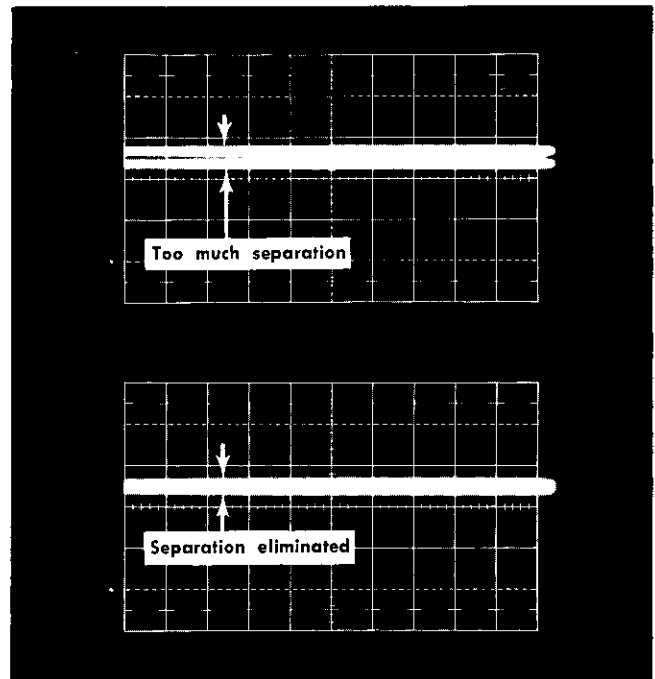

Fig. 5-5. Noise waveform, step 8. Sweep rate 5 μs/div; deflection factor 1 mV/div.
- GR 5× attenuator (item 17)
- Two GR 10× attenuators (item 18)
h. Decrease the + TRANSITION AMPLITUDE to a point where the dark line between the two traces is just eliminated. Use Fig. 5-5 as a guide. (The desired presentation is obtained when a point is reached where doubt exists as to whether the dark line is or is not eliminated.)